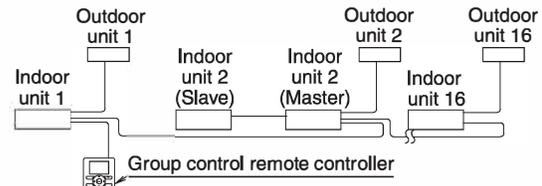

Fig. 28
- When using as a pair unit or as a master unit for simultaneous operation system, you may carry out simultaneous start/stop (group) control up to 16 units with the remote controller. (Refer to Fig. 28)
- (1) Remove the control box lid.
- (2) Connect crossover wiring between the terminals (P1, P2) inside the control box for the remote controller. (There is no polarity.) (Refer to Fig. 28)